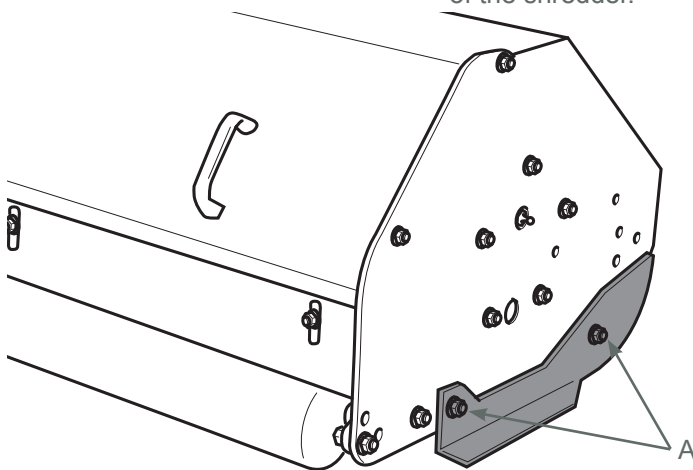

Fig. 27
- 1) Remove the fixing screws "A" of the slide rails (Fig. 27).